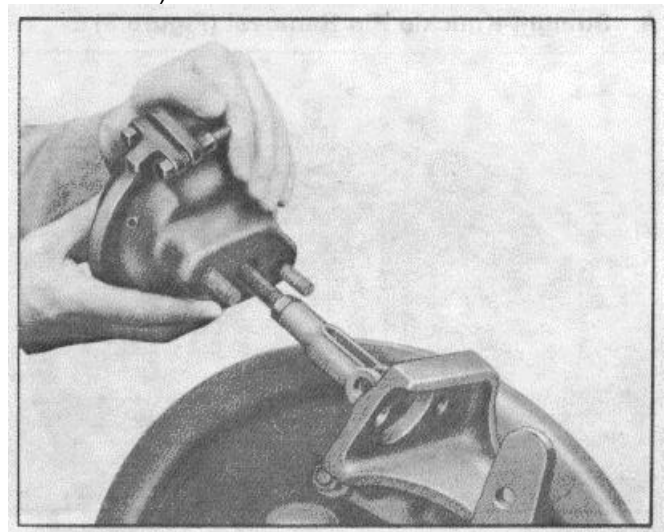

Figure 8
1. On some models it will be necessary to remove the brake components to provide clearance for knuckle pin removal. Refer to brake manual for brake disassembly (Figure 8).